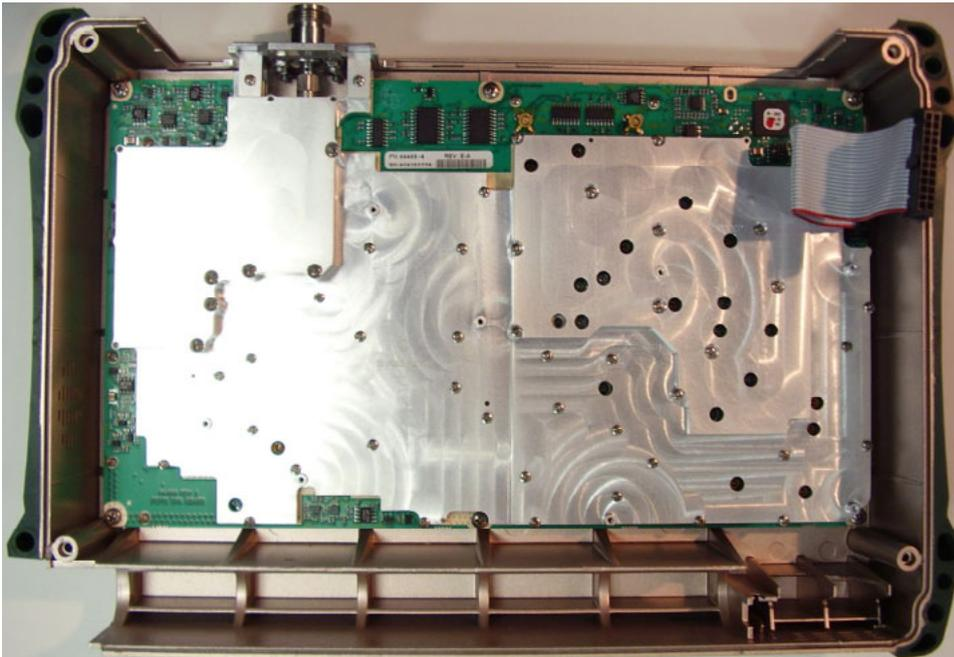

Figure 3-7. Spectrum Analyzer PCB
1. The Spectrum Analyzer PCB is attached to the case bottom cover and can be removed from the case cover by removing the 6 larger screws around the edge of the PCB (refer to Figure 3-7). Do not loosen or remove any smaller size screws from the Spectrum Analyzer assembly.